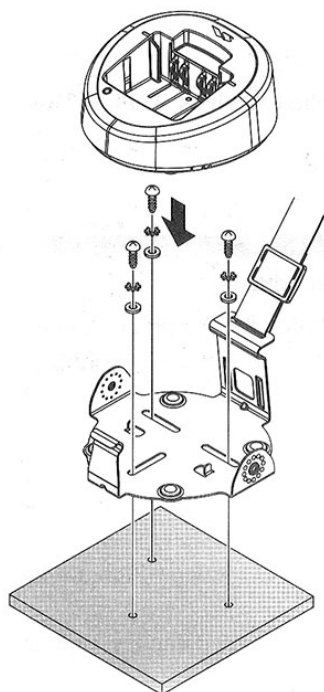

FIGURE 6
- ☐ You may secure the Charger Stand to the vehicle directly with the Bracket "**B**" (Figure 6 of the back page).